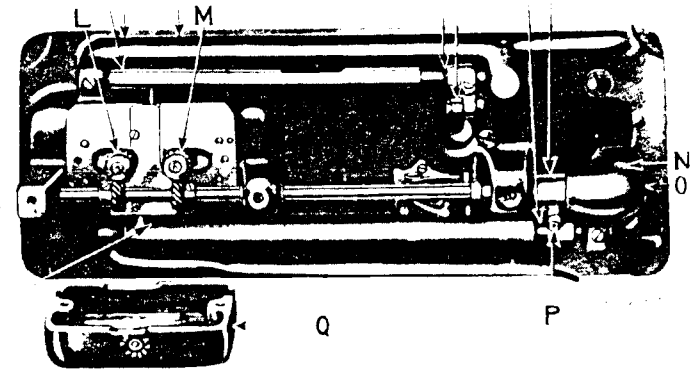

Fig. 5. Base View of Machine, Showing Oiling Points
Occasionally remove the gear case (O, Fig. 5) and fill it with the **GEAR LUBRICANT** mentioned above. The gear case can be easily removed after taking out the screw (N, Fig. 5).
Turn the machine back on its hinges and apply oil at the places designated by arrows in Fig. 5 and all other places where there are parts in movable contact.
When the machine is shipped from the factory, the grease pan (Q, Fig. 5) is packed with **GEAR LUBRICANT**, sold only by Singer Sewing Machine Company. Occasionally this grease pan should be removed, thoroughly cleaned out and filled with **GEAR LUBRICANT** or "TYPE B" or "TYPE D" OIL. Oil should be regularly applied through the oil hole at the front of the grease pan (Q) to lubricate the gears and shaft.